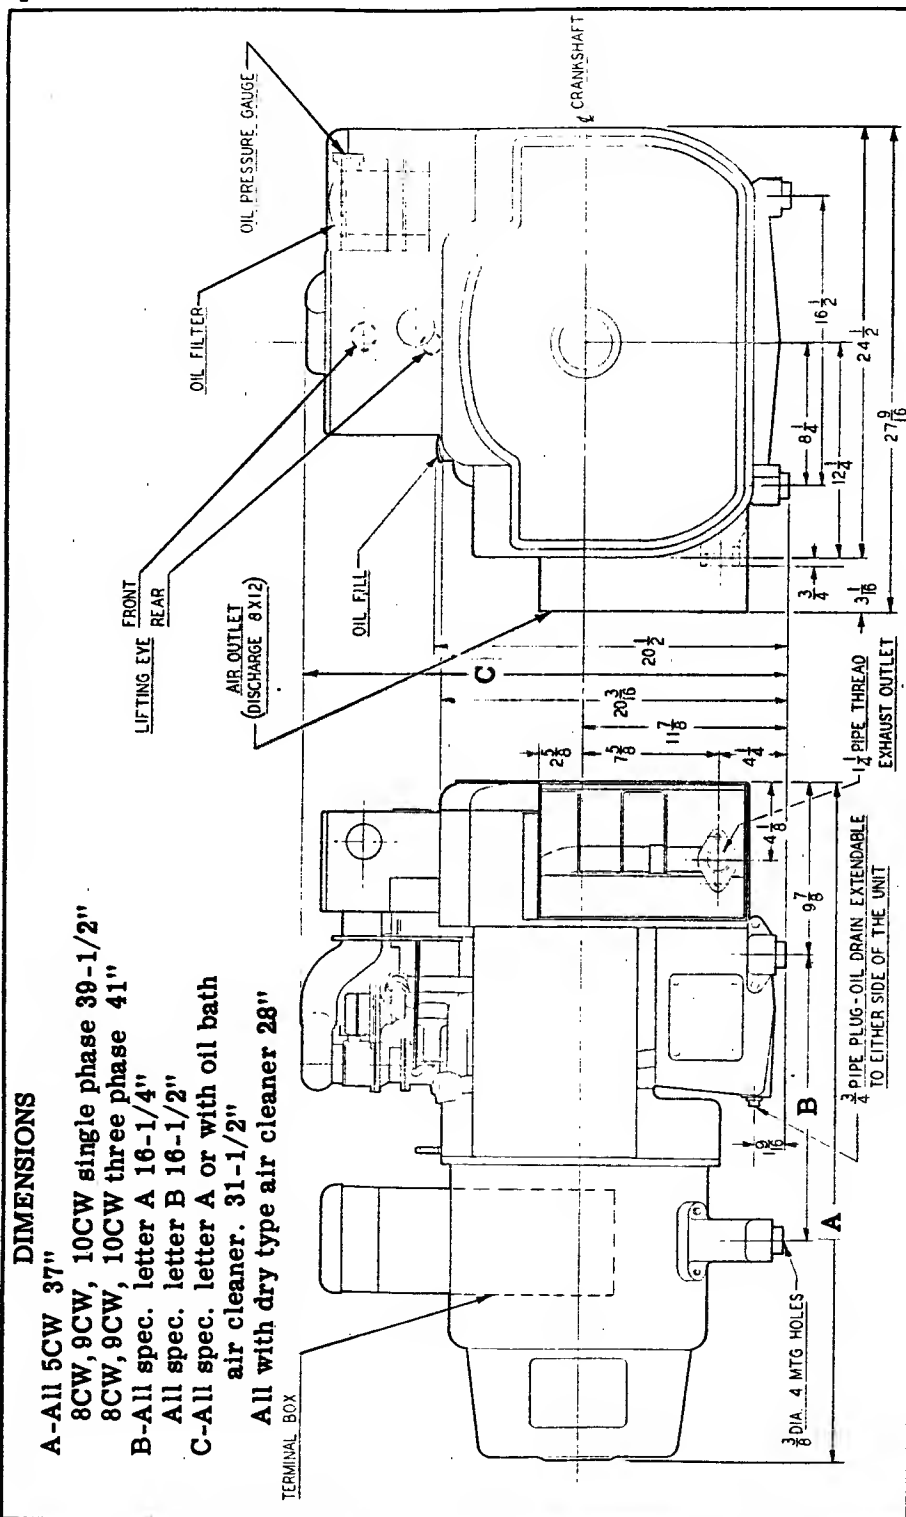

Fig. 3 Dimensions
**MOUNTING, PERMANENT INSTALLATION.** - The most satisfactory base for mounting the generating plant is one made of concrete. A heavy timber base may prove satisfactory in some installations. The top dimensions of the base should be a minimum of 20" x 20". The base may be of any convenient height, allowing approximately 24" clearance space on all sides for access in servicing the plant. Be sure the top of the mounting base is smooth and level, so as to avoid excessive strain on any one of the four mounting feet. Space the 3/8 inch diameter mounting bolts 16-1/2" x 16-1/2"; except when the plant model number ends in "A" - use 16-1/4" spacing for front-to-rear dimensions Fig. 3. Use care to properly assemble the mounting cushions, washers, and spacer bushings as shown in the mounting detail drawing Fig. 4. The spacer bushing prevents excessive compression of the rubber cushions, which would lessen their shock absorbing qualities.